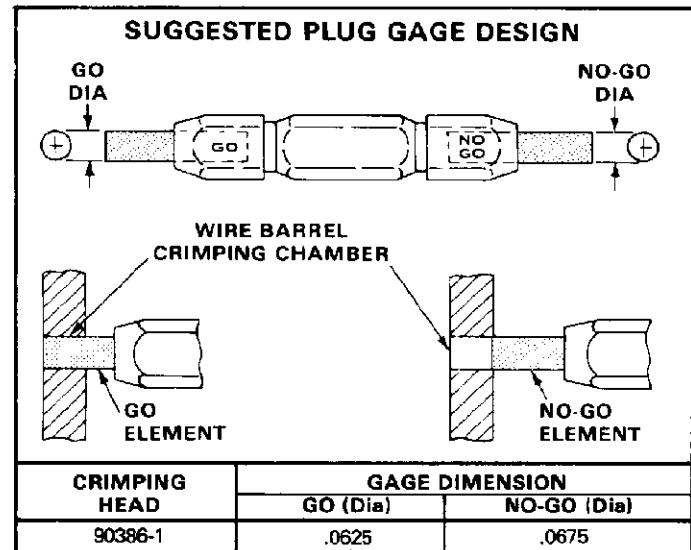

Fig. II-2
This inspection requires the use of a GO NO-GO gage conforming to the diameters in Figure II-2. AMP does not manufacture or market these gages.
2. Align the GO element with the wire barrel crimping chamber. Push element straight into the crimping chamber without using force. The GO element must pass completely through the crimping chamber as shown in Figure II-2.
3. Now align the NO-GO element and try to insert it straight into the same crimping chamber. The NO-GO element may start entry but must not pass completely through as shown in Figure II-2.